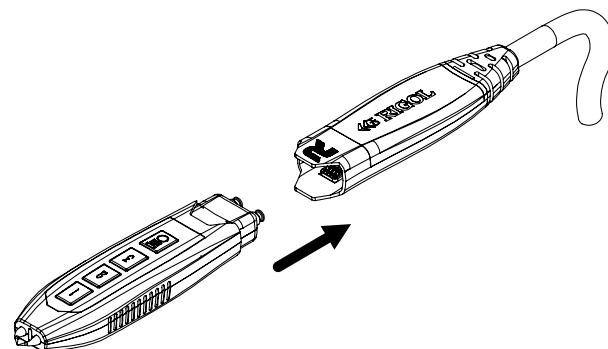

Figure 4.5 To Connect the Probe Head to the PA of the Active Probe
1. Connect the probe head to the preamp of the active probe, as shown in Figure 4.5.